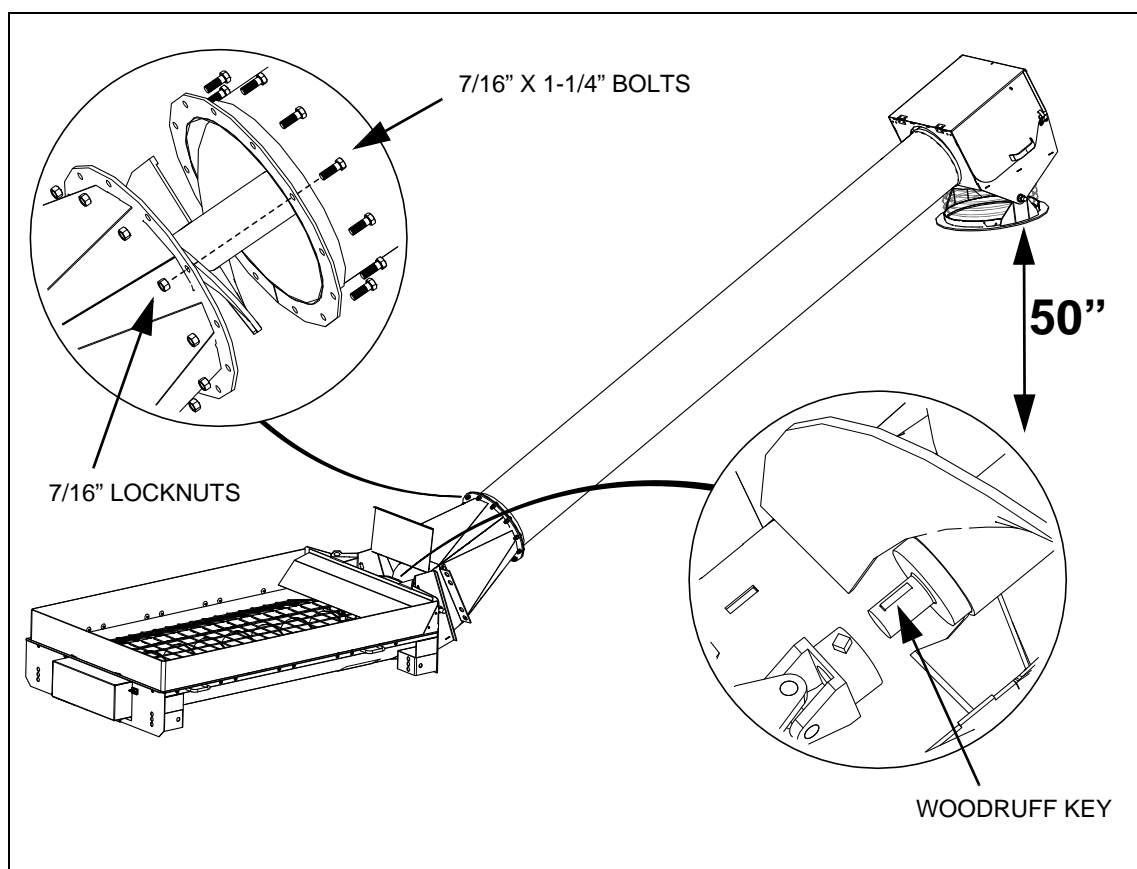

Figure 3.34 Connection the Flighting and Tube
2. Clean dirt and paint from inside the u-joint and flighting shaft end, grease the shaft end, then insert a Woodruff key (Figure 3.34).
4. Open the service door on the transition, then bring the tube and transition together guiding the flight shaft into the u-joint (Figure 3.34).